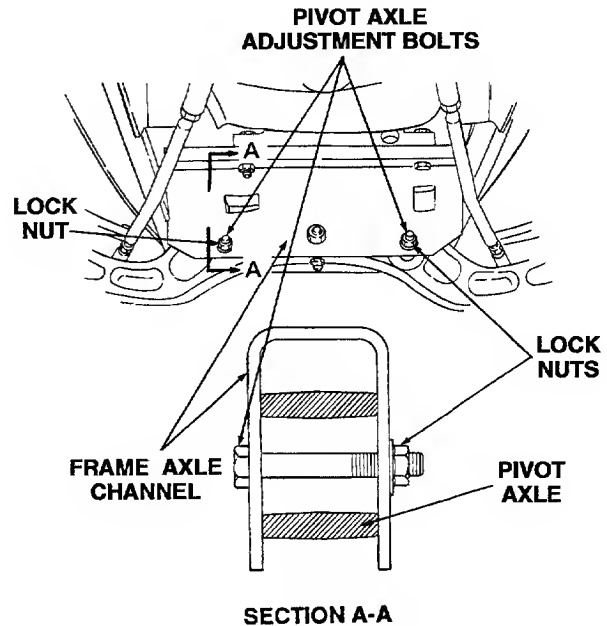

Figure 15
- Pivot the ends of the axle up and down to check for binding. If the axle is binding, loosen the lock nuts (See Figure 15) until binding is eliminated.